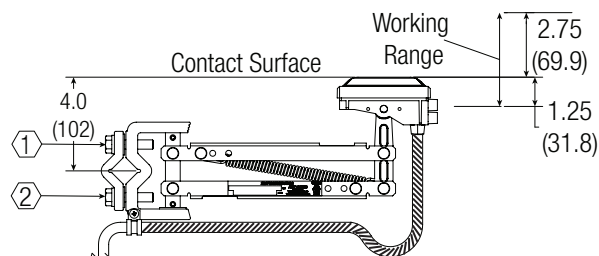

Figure: 17-1
17.0 XA-SL2C-100S-1M Single Collector - Figure 17-1
1. Attach collector mounting bracket to a suitable support at the correct setting height (see Figs. 17-1 and 17-2).
5. For customer installed cable on the collectors, there must be 18" for 100 amp and 19.5" for 200 amp of cable length from the exit of the cable clamp to the entrance of the collector head. Reference the striped cable sections of **Figures 17-1, 17-2, 18-1, 18-2.**